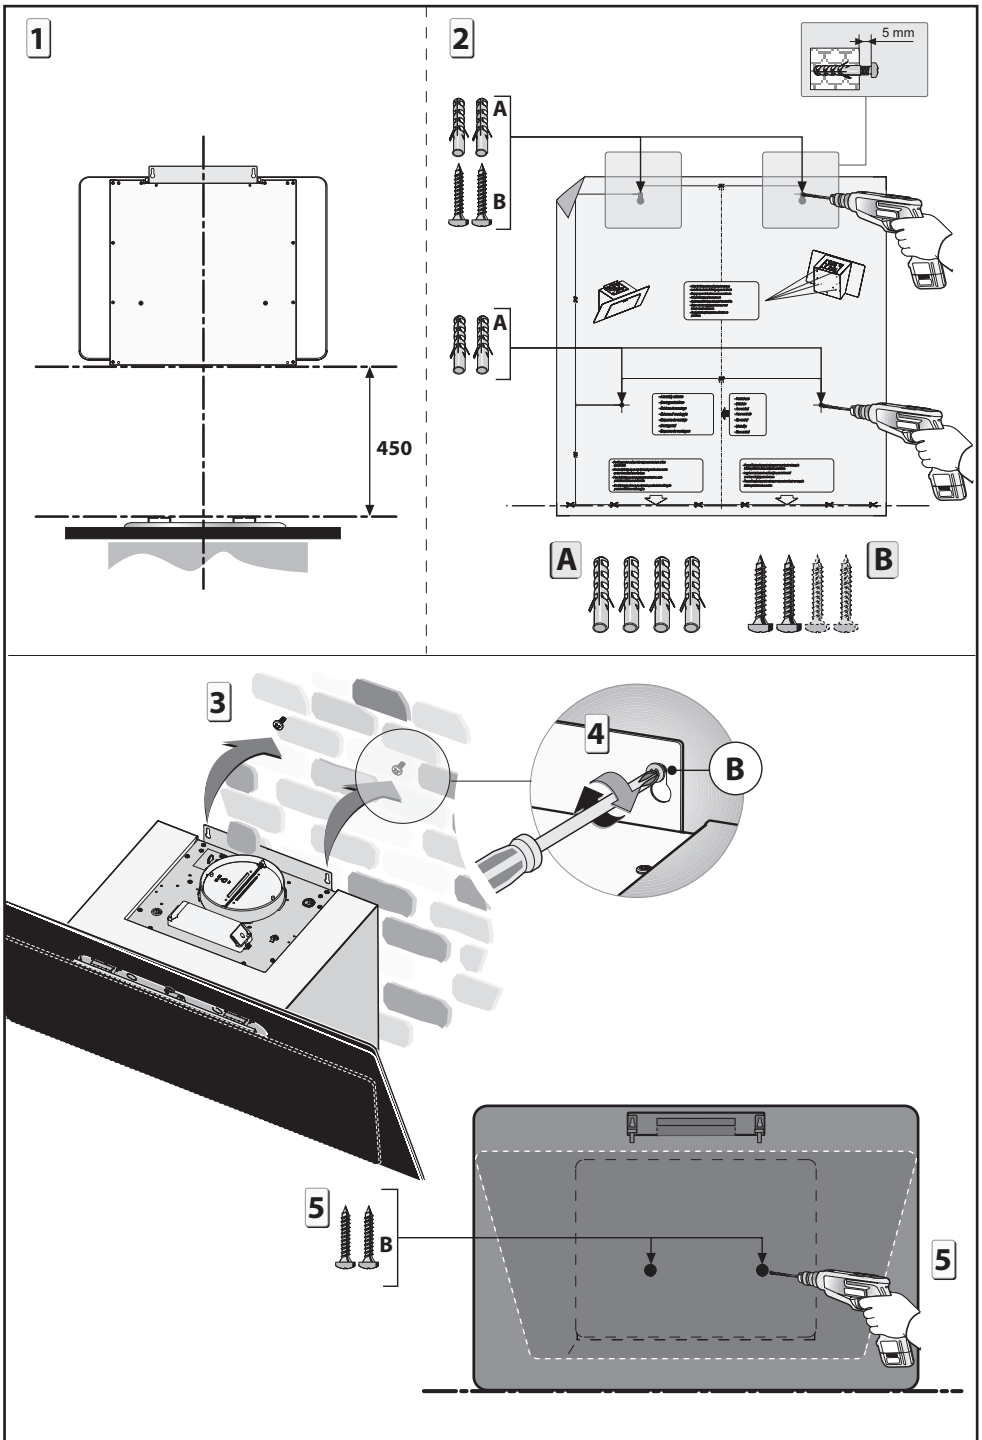

Fig.3
#### • Fixing to the wall (Fig.3):
- Mark the position of the lower side of the hood on the wall figure 3 - phase 1 (taking into account the minimum distance required from the hob).
- Mark and drill fixing holes figure 3 - phase 2.
- Fasten the 4 anchors and the 2 screws **A-B** without fully tightening them figure 3 - phase 2.
- Position the appliance on the wall and permanently secure it by pulling the 2 screws **B** figure 3 - phase 3-4 and the 2 locking screws **B** figure 3 - phase 5.